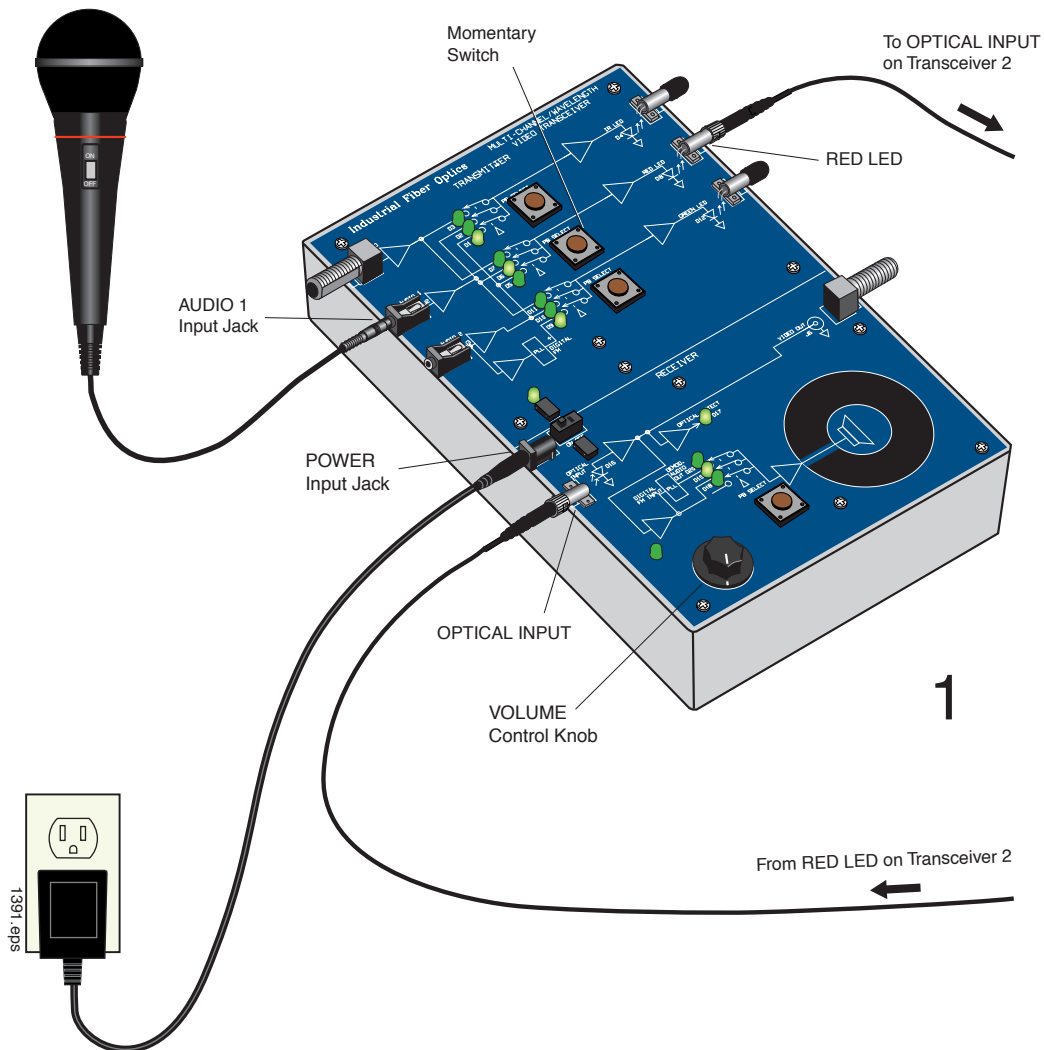

Figure 3. Equipment set-up for Location 1 to complete the Voice Transmission Experiment.
3. Your equipment set-up should look like Figure 3 when completed. You may wish to refer to this figure as you complete the following steps.
11. Press the middle momentary switch (as indicated in Figure 3) in the center of the TRANSMITTER portion of the Transceiver until the green LED labeled D6 is lit.